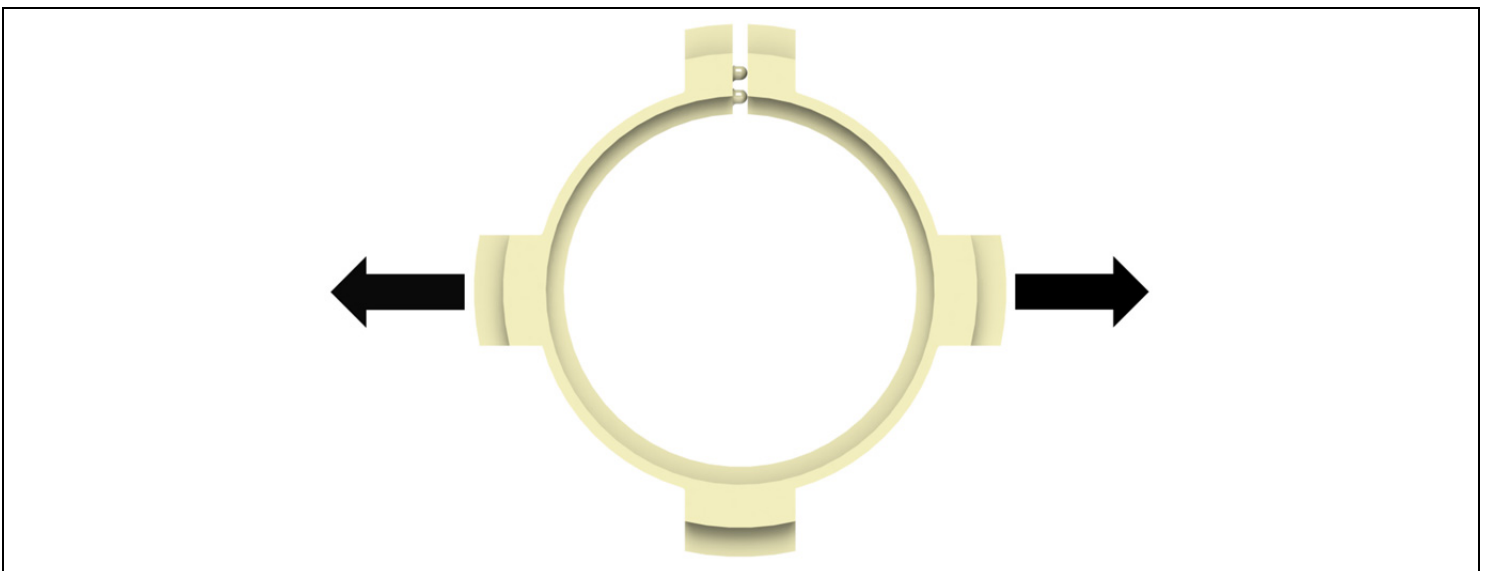
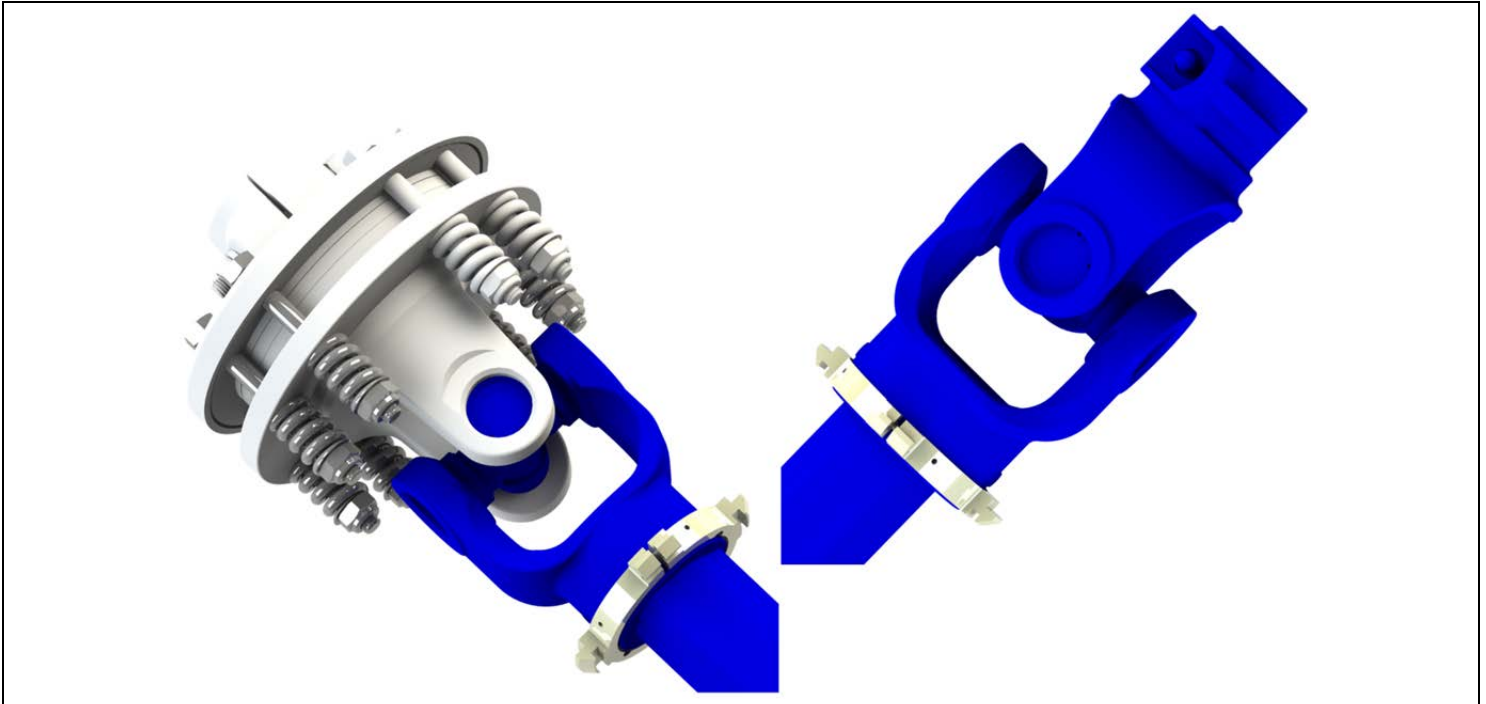

Figure 20. Assembly Step 2
Figure 21. Assembly Step 2
2. While pulling outward on the bearing, slide the bearing into one of the grooves at either end of the driveline. Repeat for the opposite end of the driveline. Please refer to *Figure 20* and *Figure 21*, below, for further clarification.